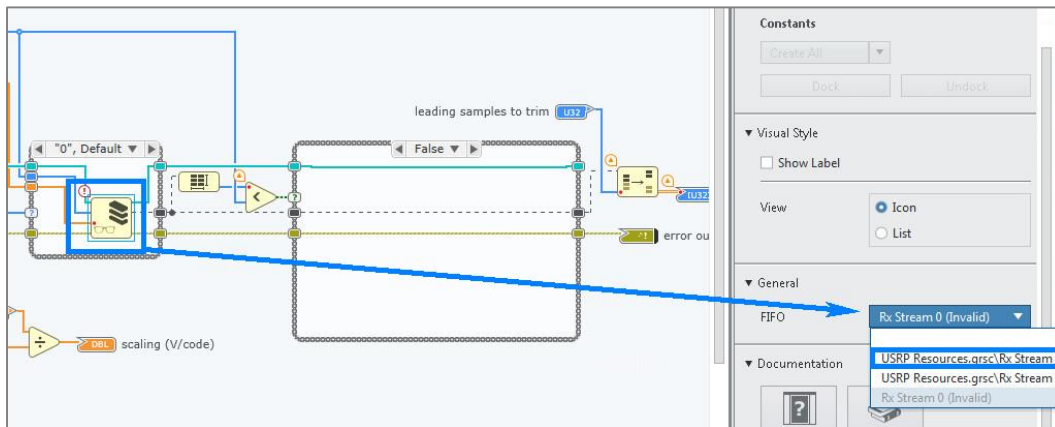

Figure 114: Select Appropriate Resource
2. In the right-hand rail is a drop-down selection for available FIFO names referenced by the bitfile being used. Select the appropriate resource as shown in Figure 114.